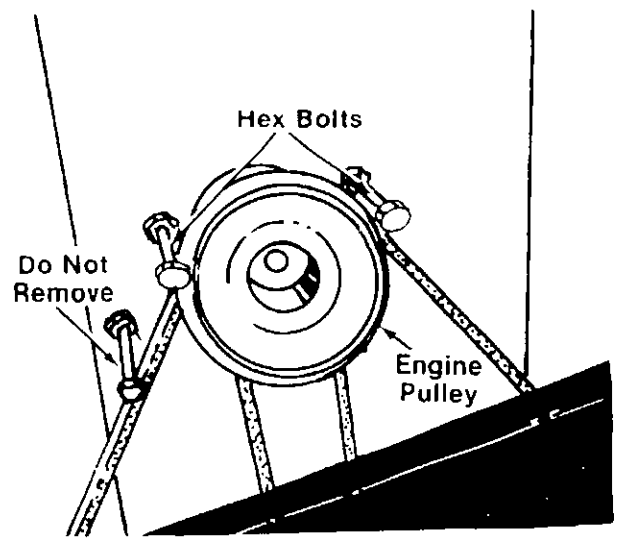

FIGURE 22.
Figures 22 through 26 are shown with the unit tipped up for clarity. It is not necessary to tip the unit to remove the belts.
2. Remove the two hex bolts (belt keepers) from the engine pulley belt guard. See figure 22.